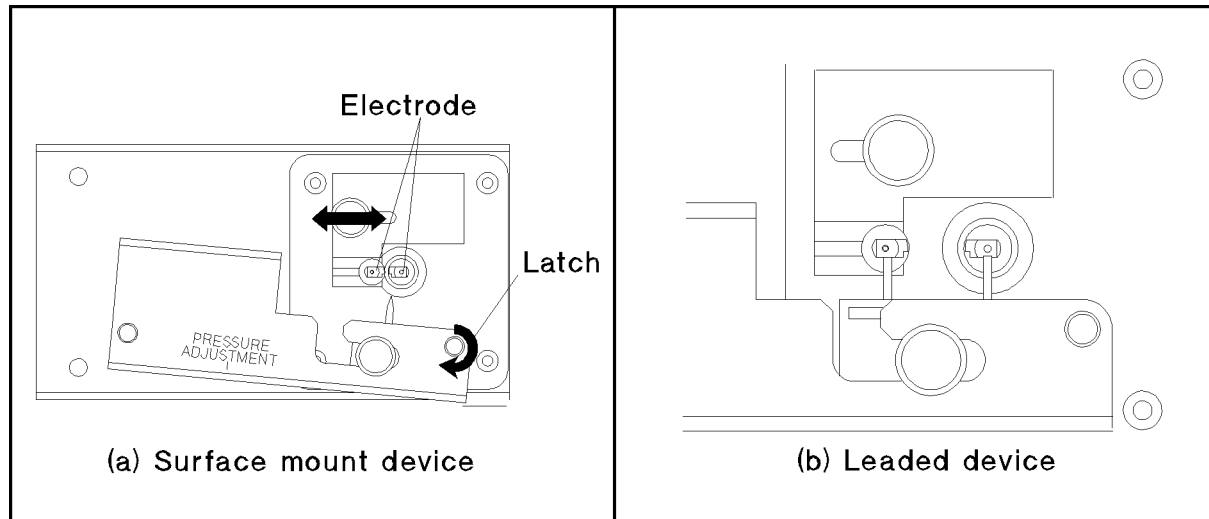

Figure D-5. Open compensation
2. When measuring a surface mount device, move the arm outward and latch it. Then make the distance between the electrodes same as the device size by adjusting the ground plate(Figure D-5).
3. When measuring a leaded device, make the distance between the electrodes and the distance between the device holder's pins same as the device size. Then press the electrodes with the device holder's pins, not latching the arm(Figure D-5).